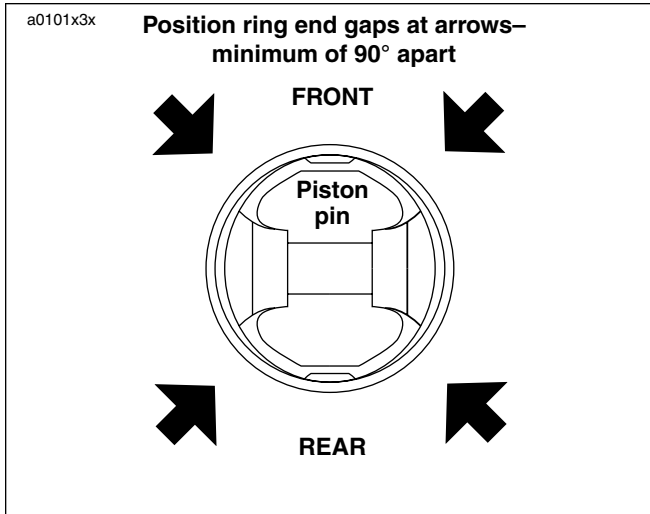

Figure 3-104. Ring End Gap Position
5. See Figure 3-104. Make sure the piston ring end gaps are properly positioned as shown.